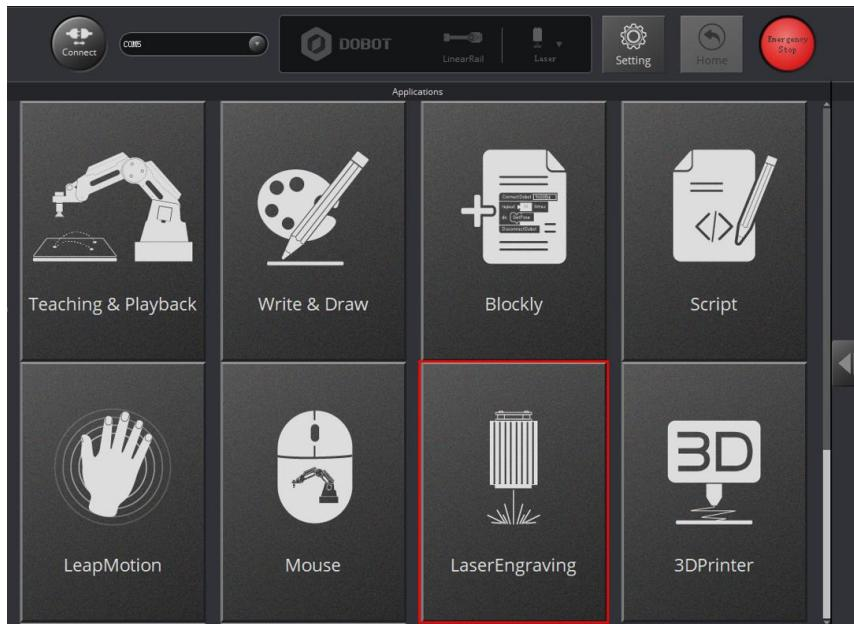

Figure 5.91 Click LaserEngraving
**Step 2** Click **LaserEngraving**, as shown in Figure 5.91.